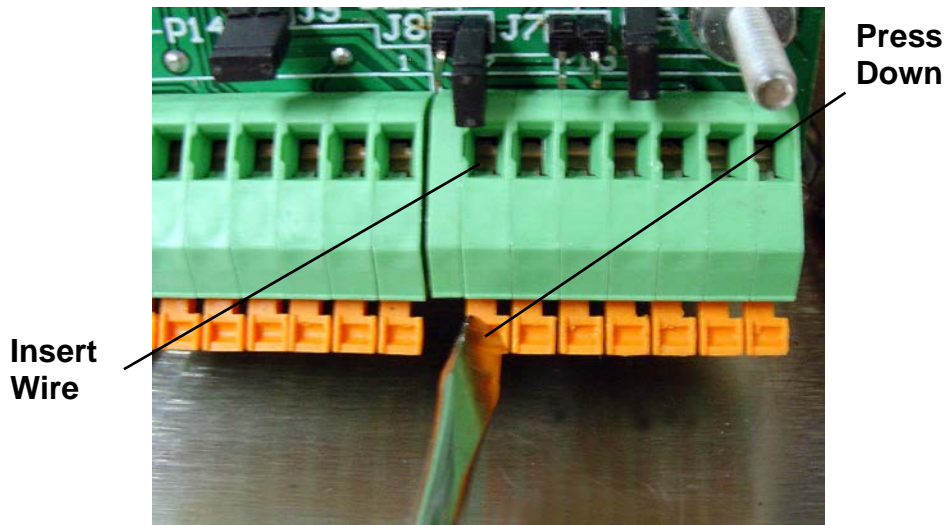

Figure No. 5
8. To terminate a wire, use a small flat-blade screwdriver and press down on the release bar for the terminal. Insert the wire into the opening and remove the screwdriver, allowing the release bar to return to its original position, locking the wire in place. See Figure No. 5.
7. To terminate a wire, use a small flat-blade screwdriver and press down on the release bar for the terminal. Insert the wire into the terminal opening. Remove the screwdriver, allowing the release bar to return to its original position, locking the wire in place. See Figure No. 5.